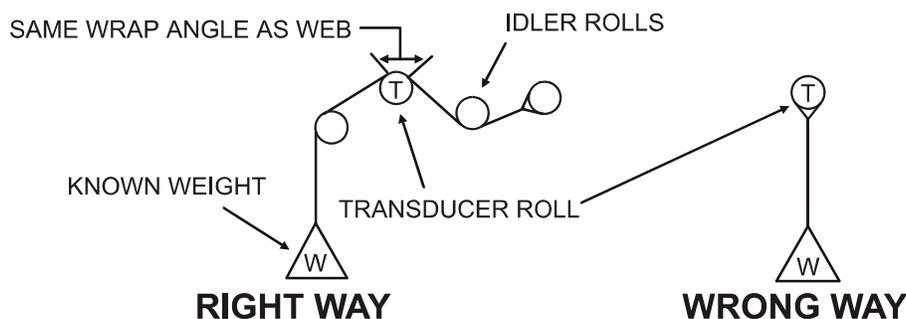

Figure 10 - WEB PATH
1. Attach the weight to the free end of the rope as shown in Figure 10. The weight should not touch anything. Wait for the weight to stop swinging.
5. Attach the weight to the free end of the rope as shown in Figure 10. The weight should not touch anything. Wait for the weight to stop swinging.